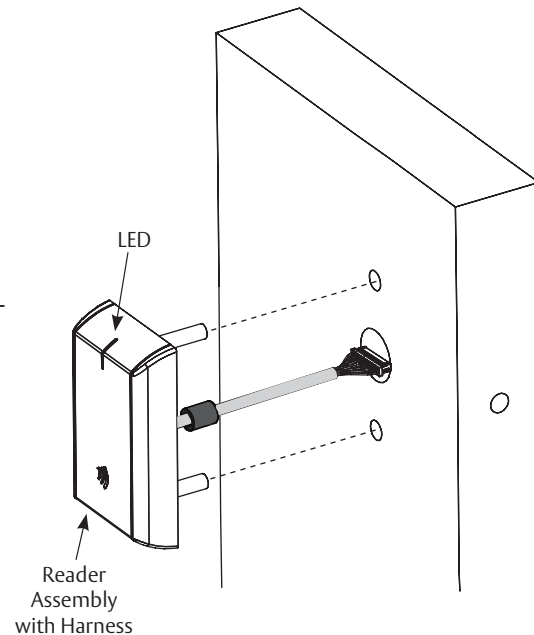

Fig. 1
- a. Orient reader so LED lens is at top. (Fig. 1)